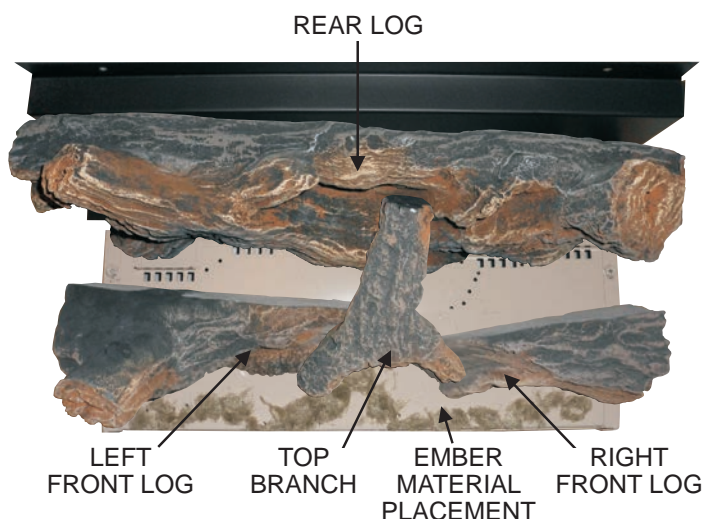

Figure 25 - Log Placement - Top View (DVP20MS Shown)
5. Place ember material on front burner ports as shown in **Figure 25**.
*Place ember material on front burner ports as shown in **Figure 25**.